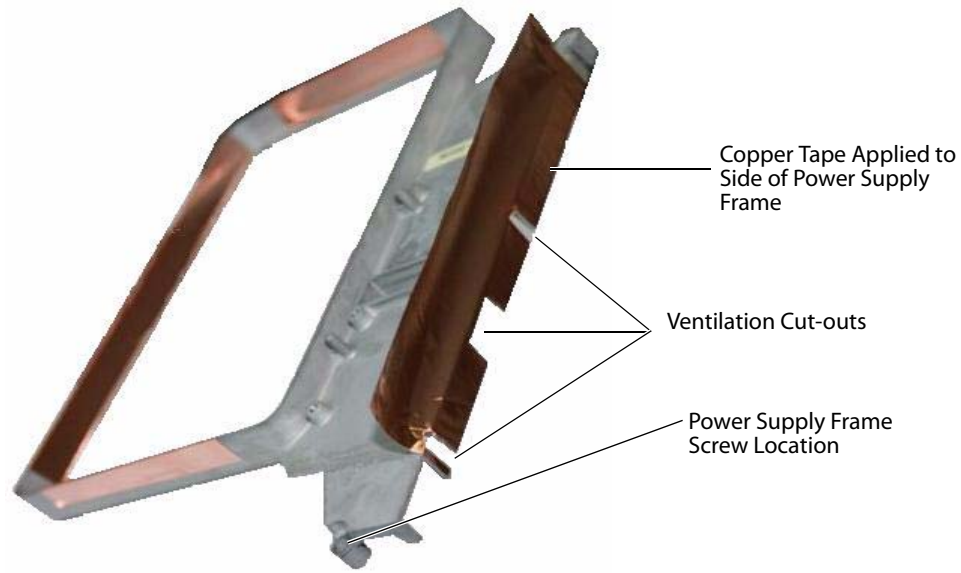

Figure 4.15 Copper Tape Installation
- 8 Apply one strip of 1" x 5" self-adhesive copper tape to the edge of the Power Supply Frame as shown in Figure 4.15.